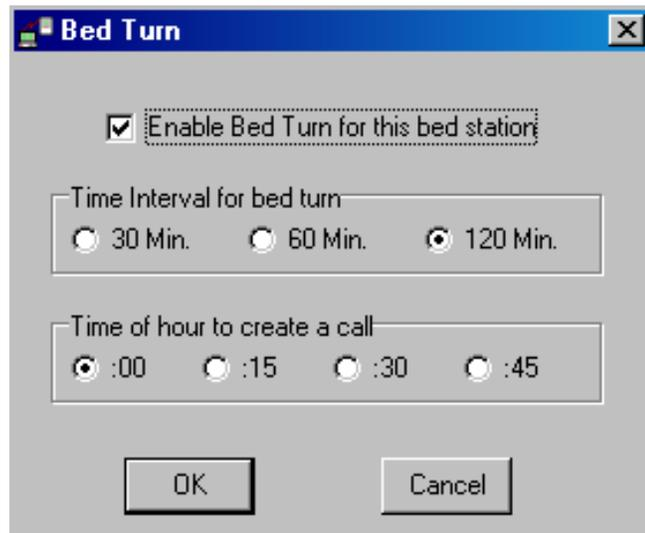

Figure 31
- Click on the **Bed Turn** button at the top right (**Enable Bed Station** must be enabled for the bed turn function) and place a check mark next to **Enable Bed Turn for this bed station** (see **Figure 31**).